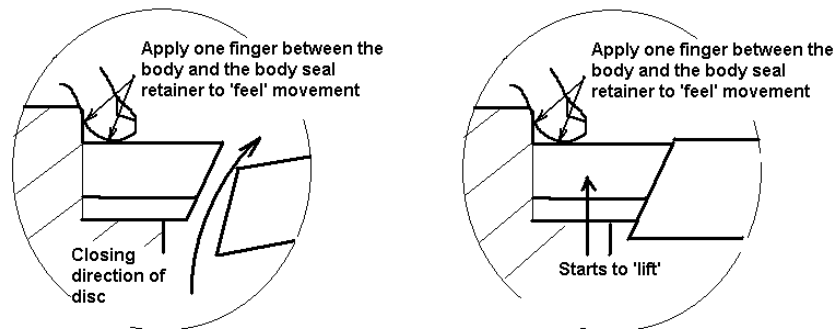

Fig. 9
- h. Slowly close the disc until you feel the body seat start to lift. To verify the correct fit the body seat should 'rock' when pressed in the 3 and 9 o'clock position. If no 'rock' is evident contact Tomoe Valve for advice. (see fig. 9)